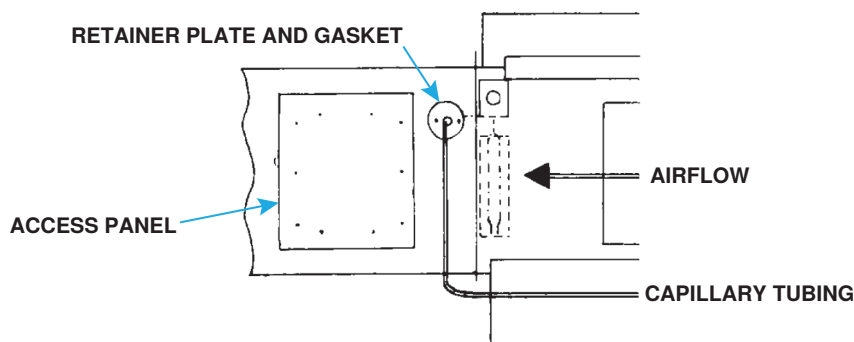

Figure 8. Capillary Sensor Installation
- (2) At selected ductwork location, mark and cut 1/2-inch hole that will be sealed with gasket and retainer plate (see Figure 8). Push sensor and capillary tubing through hole.
- (3) Remove ductwork access panel (see Figure 8) and install sensor in sensor holder so that it senses air temperature as it flows through holes in holder.
- (4) Position sensor holder and junction box assembly inside ductwork so that sensor will be shielded from direct airflow and secure junction box to ductwork using four field-supplied #6 sheet metal screws.
- (5) Slide gasket (cut slit) and retainer plate over capillary tubing. With gasket next to ductwork, install hole retaining plate and secure using field-supplied sheet metal screws.
- (6) Close ductwork access panel.